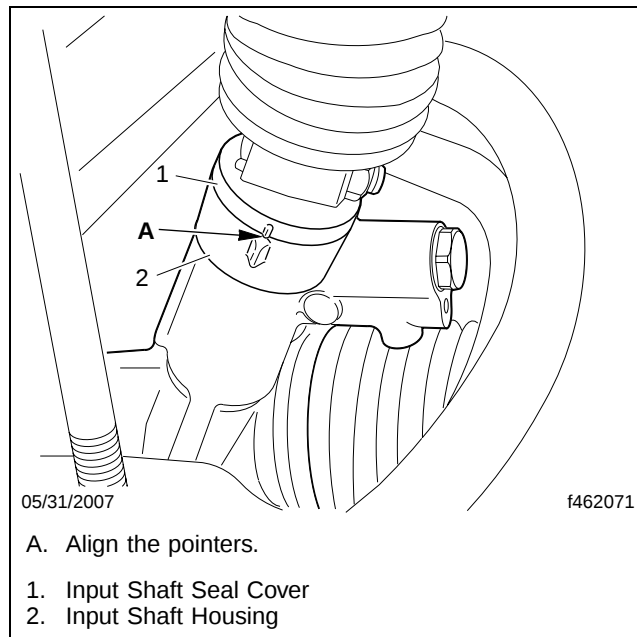

Fig. 6, Pointer Alignment
- 17.2 Align the pointers on the input shaft seal cover and the input shaft housing. See **Fig. 6**.
- 20.2 With the wheels on turnplates, center the rack travel by aligning the timing pointers on the input shaft seal cover and the input shaft housing. See **Fig. 6**.